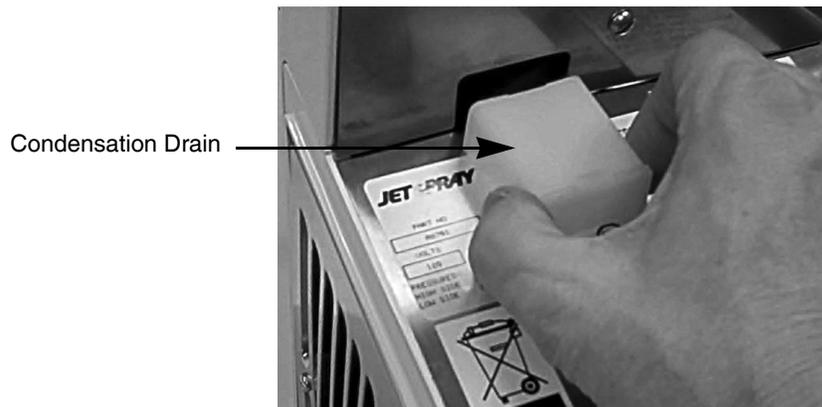

Figure 10.
1. To remove the condensation drain, push in on the front panel, just under the drain and pull down with fingers, as shown in Figure 10.